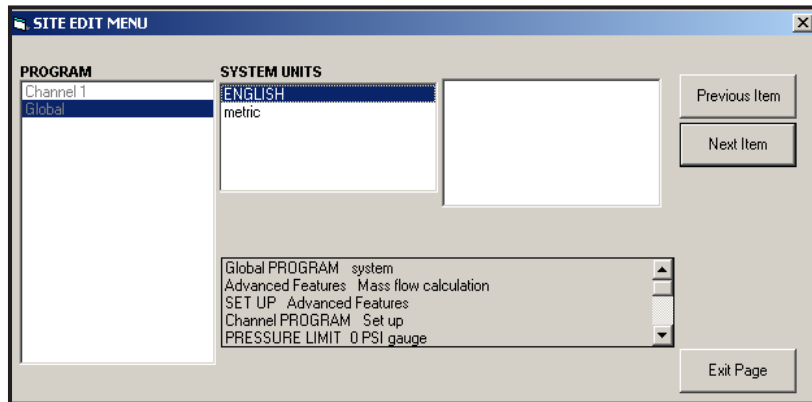

Figure 45: System Option in the Global Menu
2. Highlight and double-click on the *System* option in the center pane. The window now appears similar to *Figure 45* below.